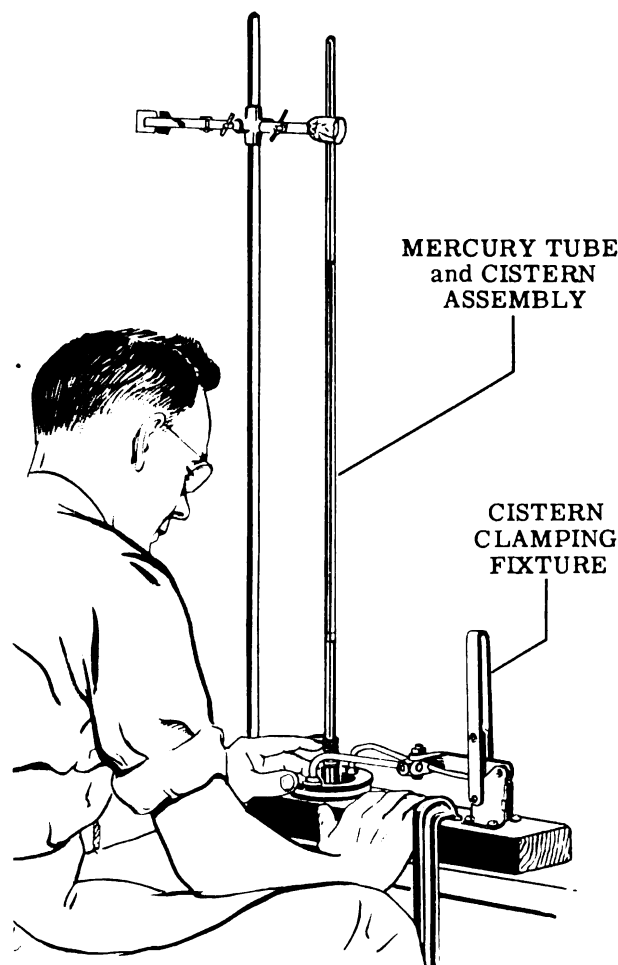

Figure 5
- C. If there are no visible defects, mount the mercury tube and cistern assembly on the cistern clamping fixture, Tool No. 1. Compress the cistern assembly, as shown in Fig. 5. The mercury column should be at the top of the tube when the top and bottom cisterns are in contact.